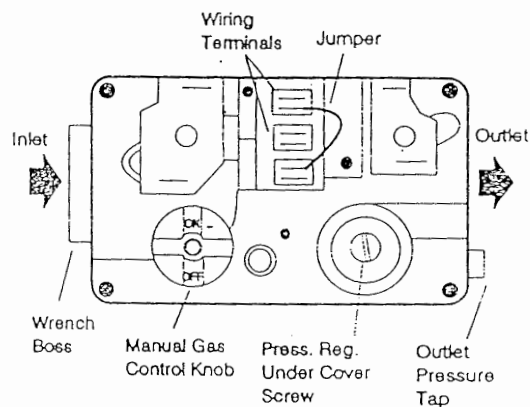

FIGURE 12 - GAS VALVE
1. Turn gas supply OFF at external gas valve or main gas valve (see Figure 12). Turn electrical power ON. Check that 24 volts is available across terminal C and R on the transformer.
2. Refer to Figure 12 for location of pressure regulator adjustment cap and screw on main gas valve.